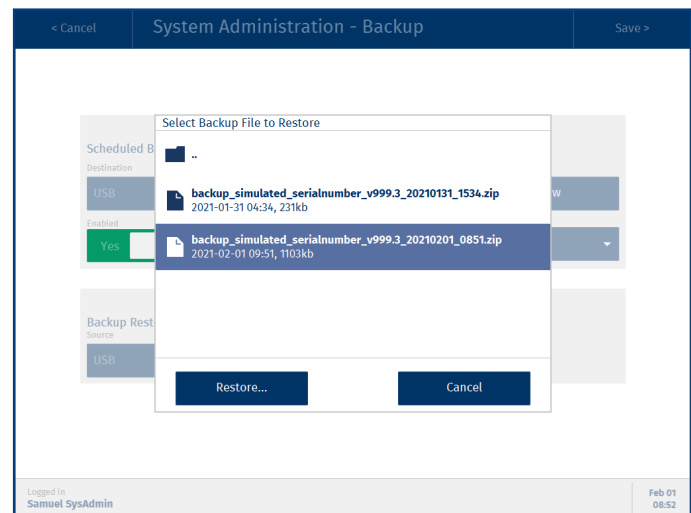

Figure 21. The Select Backup File to Restore dialog.
6. In the **Select Backup File to Restore** dialog (see Figure 21), browse to the file location (if necessary) and select the backup file to be used. The file name for backups is based on the system's serial number and the date and time of the backup.